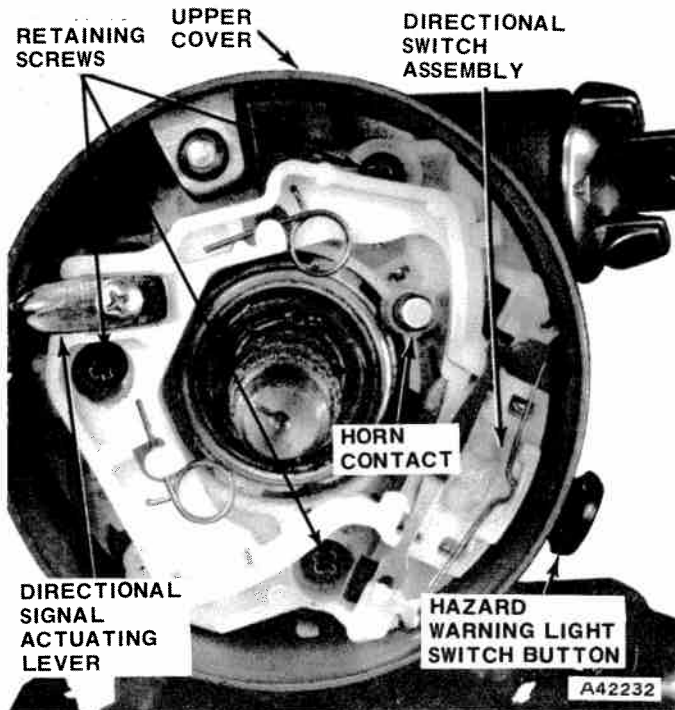

Fig. 3-79 Directional Switch
(13) Remove directional signal switch retaining screws and pull directional signal switch and wire harness from column (fig. 3-79).